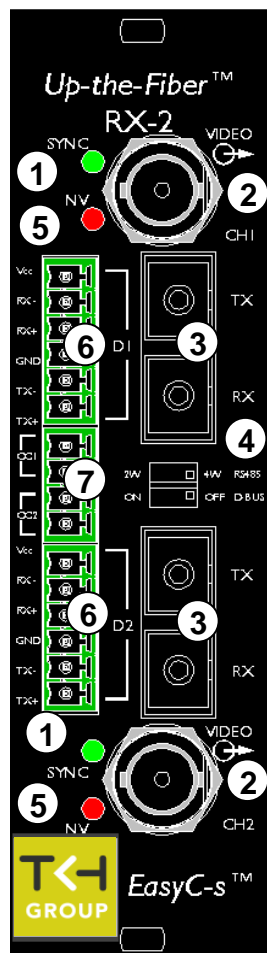

Figure 4.
The UTF receiver has the following indicators and connections (figure 4):
Before connecting the system, the RS-485 connection needs to be configured for 2-wire or 4-wire mode. This can be done with the upper switch (2W - 4W, see figure 4 pos. 4) on the front panel of the receiver. The positions are indicated on the front panel.
With the lower switch (D-bus, see figure 4 pos. 4) in the "ON" position, the external data going into the data input (see figure 4 pos. 6) is put onto an internal data bus in the cabinet, while a UTF receiver is then also enabled to get data from this internal data bus. To minimise external wiring, the UTF models are fitted with EasyC-s™.